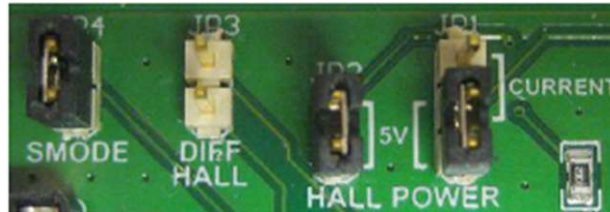

Figure 17. Jumpers
Step 1. Set the jumpers shown in Figure 17.